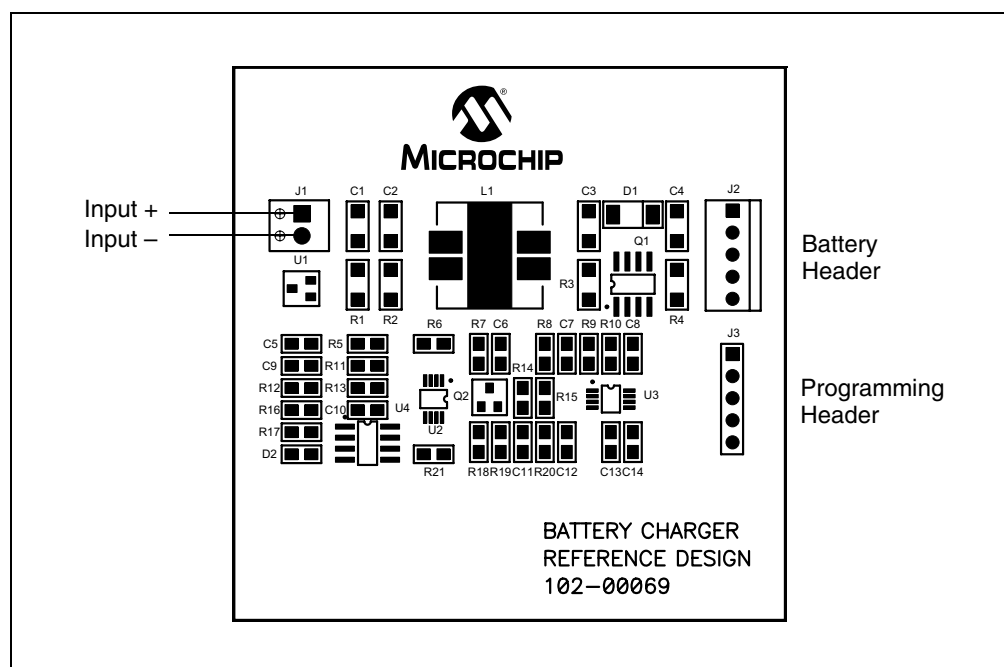

FIGURE 2-1: Setup Configuration Diagram.
2. Connect the positive side of the input source (+) to pin 1 of J1. Connect the negative or return side (–) of the input source to pin 2 of J1. Refer to Figure 2-1.